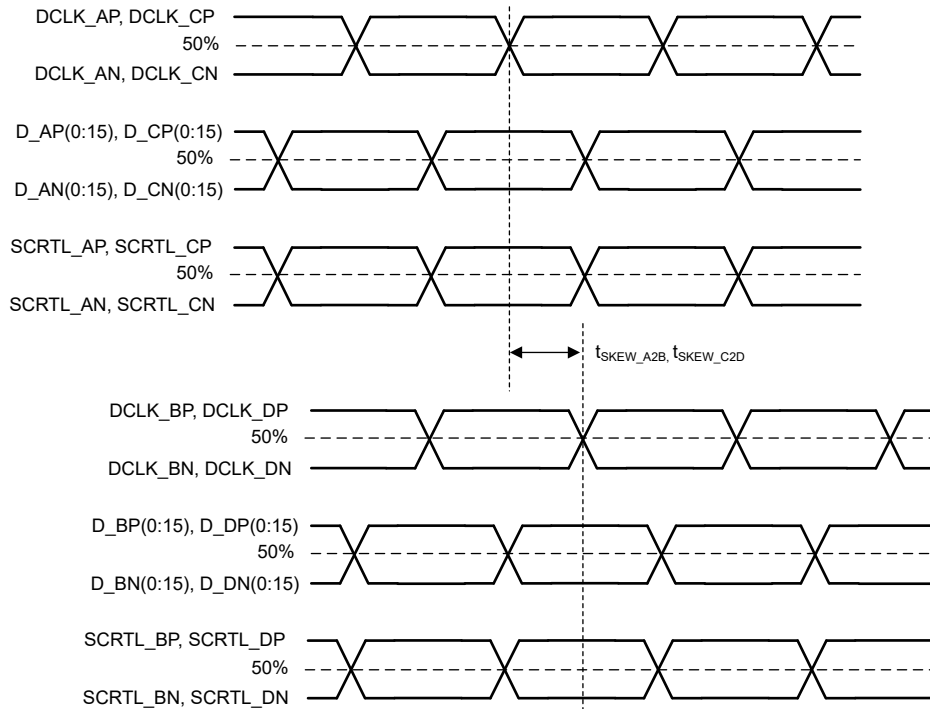

Figure 6-8. LVDS Skew Parameters
(5) See Figure 6-8.
(6) Channel A (Bus A) includes the following LVDS pairs: DCLK_A, SCTRL_A, and D_A.
(7) Channel B (Bus B) includes the following LVDS pairs: DCLK_B, SCTRL_B, and D_B.
(8) Channel C (Bus C) includes the following LVDS pairs: DCLK_C, SCTRL_C, and D_C
(9) Channel D (Bus D) includes the following LVDS pairs: DCLK_D, SCTRL_D, and D_D.